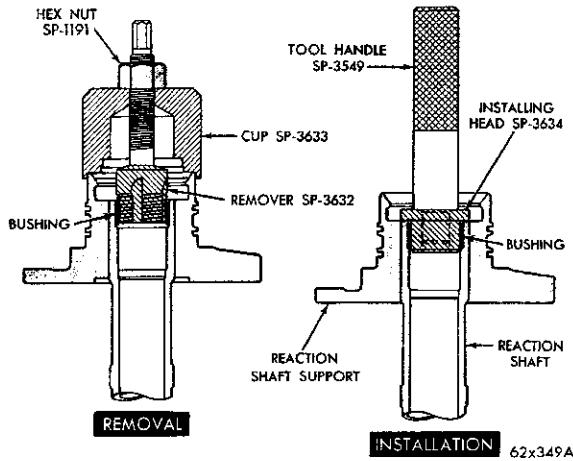

Fig. 65—Replacing Reaction Shaft Bushing
(1) Assemble the remover Tool SP-3632, the cup Tool SP-3633, and the hex nut Tool SP-1191.
(2) With the cup held firmly against the reaction shaft, thread the remover into the bushing as far as possible by hand (Fig. 65).
(3) Using a wrench, screw the remover into the bushing 3 to 4 additional turns to firmly engage the
(7) Support the reaction shaft upright on a clean smooth surface and install handle Tool SP-3549 in the installing head (Fig. 65). Drive the bushing into the shaft until the tool bottoms.
(8) Thoroughly clean the reaction shaft support assembly before installation.